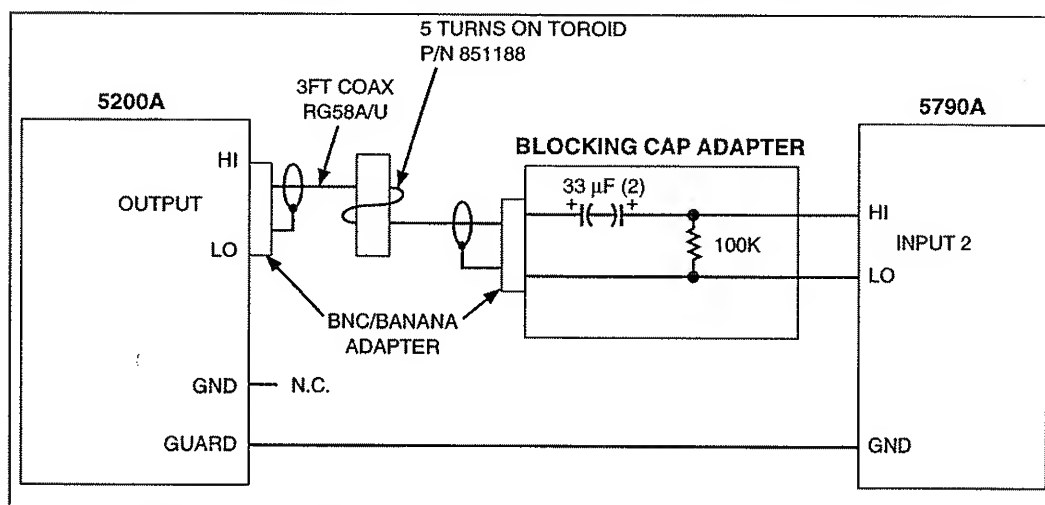

Figure F-5. 1 mV Output Accuracy Equipment Configuration
10. Connect the equipment as shown in Figure F-5.
9. Connect the equipment as shown in Figure F-5.